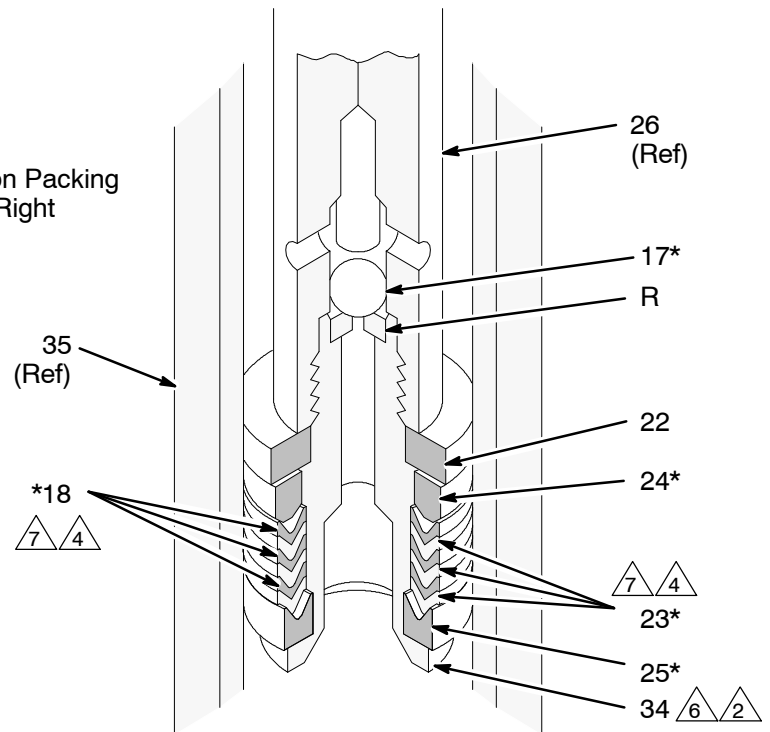

Fig. 5
When disassembling the pump, lay out all removed parts in sequence, to ease reassembly. Refer to Fig. 5.
2. Unscrew the intake valve housing (33) from the outlet housing (35). If it is difficult to remove, squirt penetrating oil around the threads and *gently* tap around the valve housing with a plastic hammer to loosen it. See Fig. 5.
3. Remove the ball stop pin (29), o-ring retainer (31), o-ring (30), guide (32) and ball (28) from the intake valve housing (33).
4. Loosen the packing nut (36). Push the displacement rod (26) down as far as possible, then pull it out the bottom of the outlet housing (35).
5. Secure the flats of the displacement rod (26) in a vise. Screw the piston stud (34) out of the rod. Remove the ball (17), retainer (22), packings (18, 23) and glands (24, 25).
6. Remove the packing nut (36), throat packings (18, 23) and glands (24, 25) from the outlet housing (35).
7. Inspect all parts for damage. Clean all parts and threads with a compatible solvent before reassembling. Inspect the polished surfaces of the displacement rod (26) and sleeve (20) for scratches, scoring or other damage, which can cause premature packing wear and leaking. To check, run a finger over the surface or hold the part up to the light at an angle. Be sure the ball seats of the piston (R) and intake valve housing (S) are not chipped or nicked. Replace any worn or damaged parts.
1. Lubricate the throat packings and install them in the outlet housing (35) one at a time as follows, *with the lips of the v-packings facing down*: the male gland (24*), one leather v-packing (18*), one PTFE (23*), one leather (18*), one PTFE (23*), one leather (18*), one PTFE (23*), and the female gland (25*). Install the packing nut (36) loosely. See the Throat Packing Detail in Fig. 5.
2. If you removed the sleeve (20), reinstall it in the outlet housing (35), making sure to replace the gasket (19*). *Be sure the tapered end of the sleeve faces down, toward the pump intake.*
3. Lubricate the piston packings and install them onto the piston stud (34) one at a time in the following order, *with the lips of the v-packings facing up*: the female gland (25*), one PTFE v-packing (23*), one leather v-packing (18*), one PTFE (23*), one leather (18*), one PTFE (23*), one leather (18*), the male gland (24*), and the packing retainer (22). See the Piston Packing Detail in Fig. 5.
4. Use thread sealant on the piston stud (34). Install the piston ball (17*) on the piston and screw the piston valve assembly into the displacement rod (26). Torque to 55–65 ft-lb (74–88 N.m).
5. Insert the displacement rod (26) into the bottom of the outlet housing (35), being careful not to scratch the sleeve (20). Push the rod straight up until it protrudes from the packing nut (36).
6. Install the ball (28*), guide (32), o-ring (30*), retainer (31), and ball stop pin (29) in the intake valve housing (33). Apply thread lubricant and screw the intake housing into the outlet housing (35). Torque to 55–65 ft-lb (74–88 N.m).